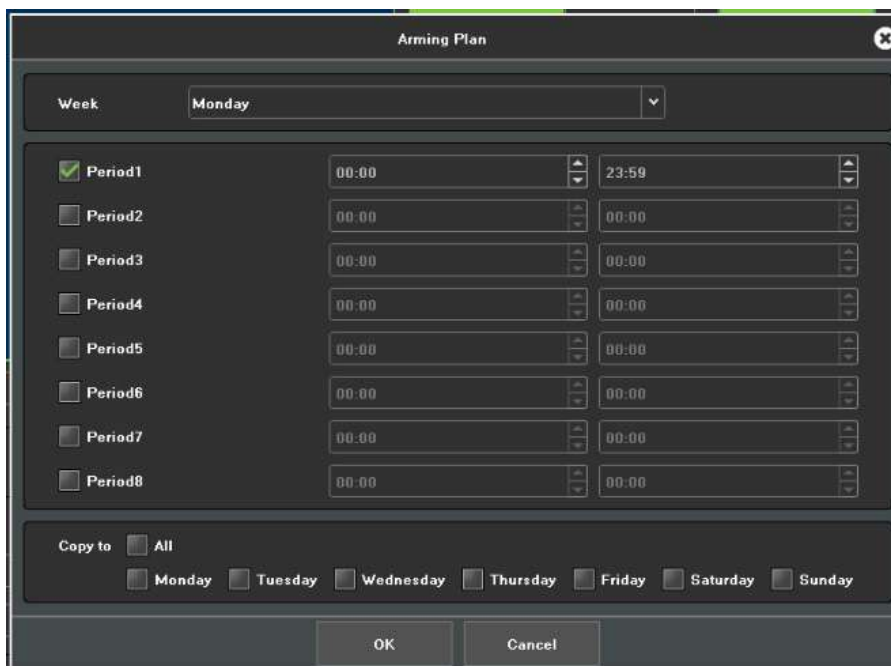

Figure 7.18 Planning
3. Setup the planning of the channel, as shown in Figure 7.18.